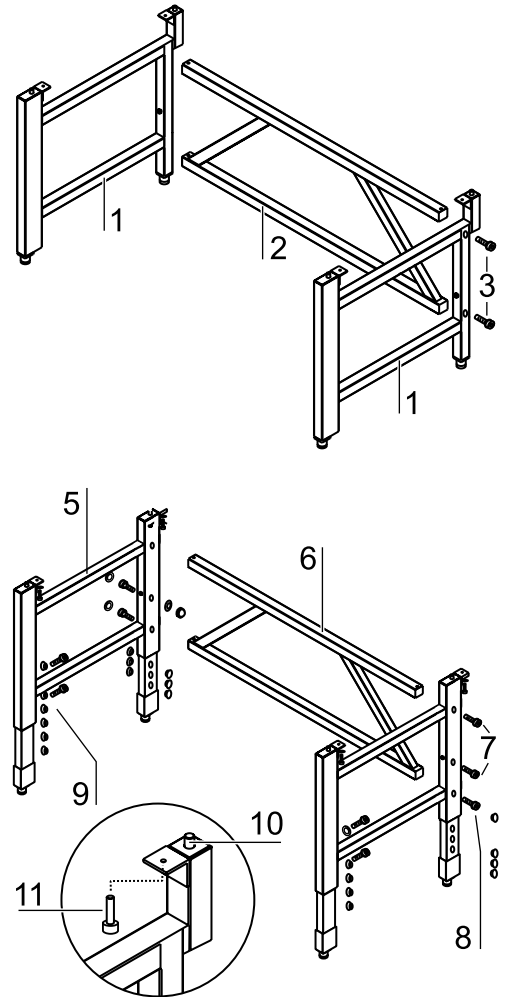

Fig. 3a,
1. **Fig. 3a:** Secure the two sidemembers [1] to the crossmember [3] using the screws [4].
1. **Fig. 3a:** Extract the stands from the sidemember guides to the desired height. To lock the height adjustment: